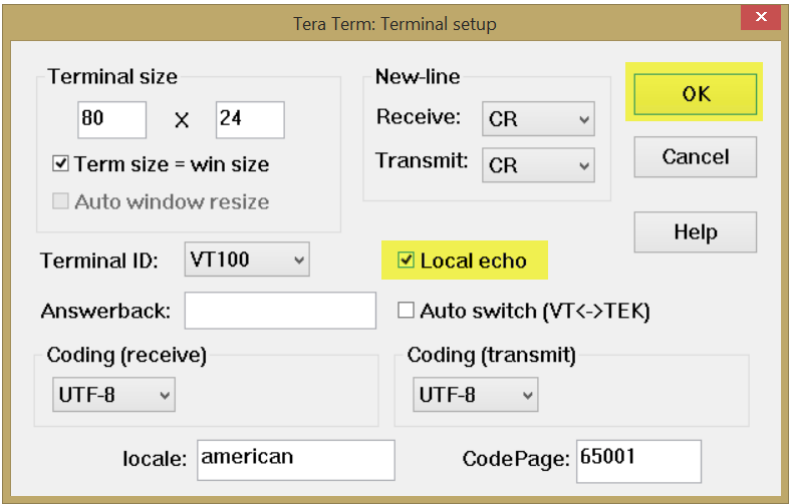

FIGURE E-3. Terminal Configuration
3. Select **Terminal** from the drop-down menu list in **Setup**. The SR50A/T does not echo characters sent to it. To see what you're typing, **Local Echo** needs to be switched on by checking the box next to **Local Echo** (FIGURE E-3). Leave everything else at the default settings. Click on the **OK** button to save the settings or the **Cancel** button to simply exit.